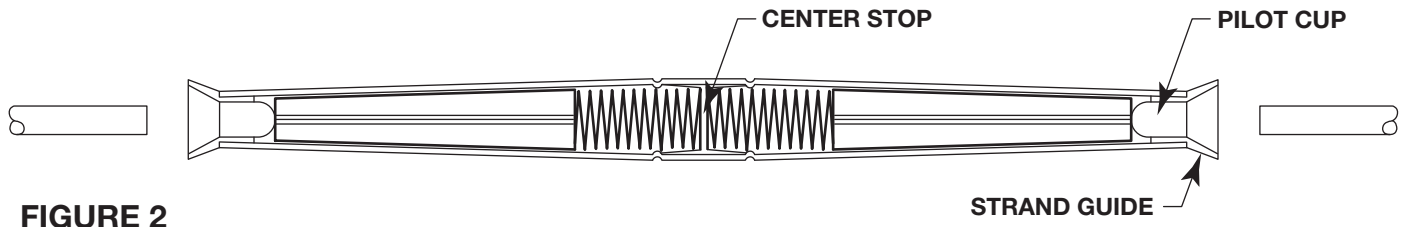

FIGURE 2
- A. Do not remove the plastic strand guide or internal pilot cup. These components confine and guide the conductor strands for easy insertion. See figure 2.